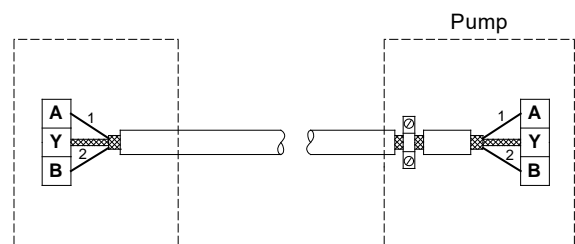

Fig. 13 Connection with screened 2-core cable
- If a screened 2-core cable is used in the existing installation, connect it as shown in fig. 13.